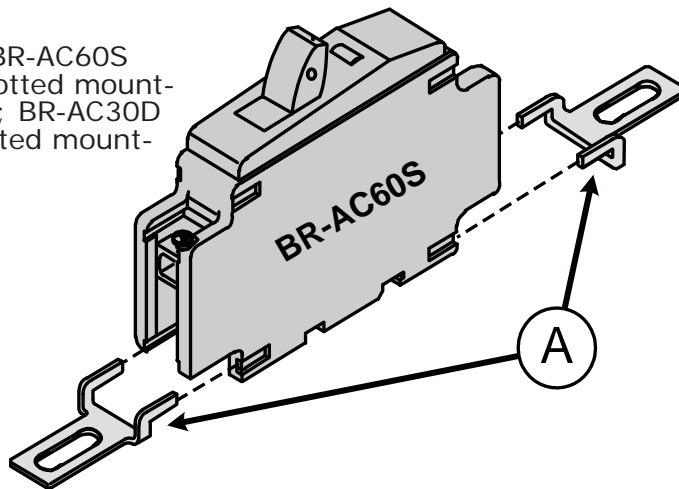

Figure 2, Attaching Mounting Feet to AC Load Breaker
2. Install the mounting feet (A) on each end of the circuit breaker (Figure 2).